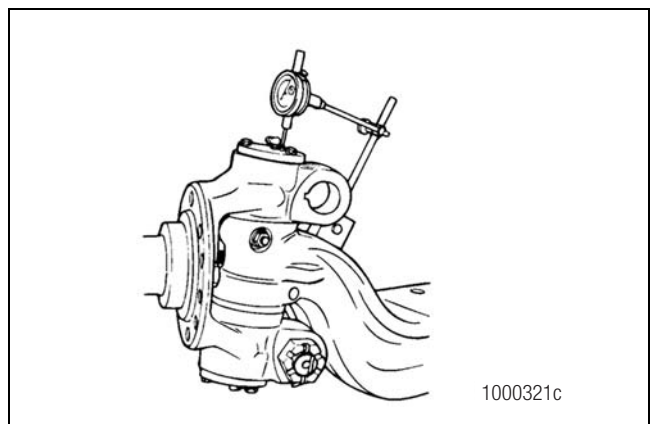

Figure 3.2
3. Install a dial indicator with the base on the I-beam and the tip on the top knuckle cap. Figure 3.2.